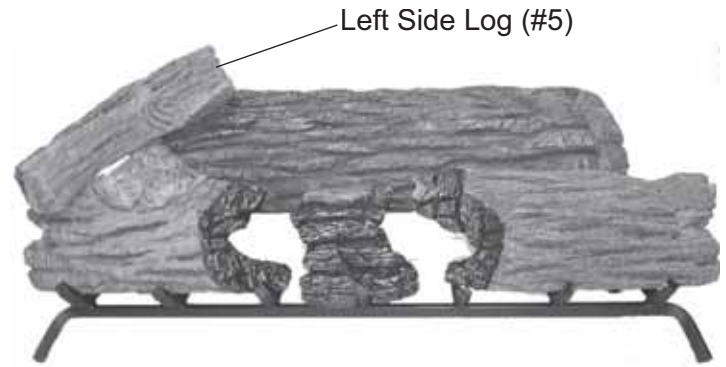

Figure 40 - Installing Left Side Log (#5)
6. Install left side log #5. *See Figure 40.*